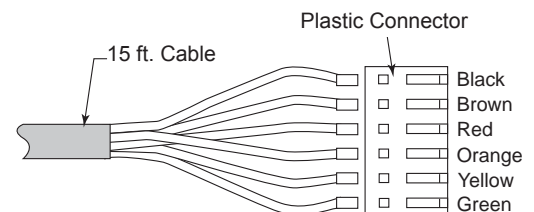

Figure 40
5. Attach the plastic connector to the 6 pins from the cable by pushing each pin into connector. Make sure to follow the color code on connector. *Figure 40*